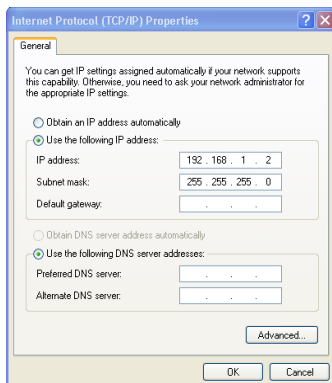

Figure 183: Internet Protocol (TCP/IP) Properties Window
6. Select Use the following IP Address, and fill in the details as shown in Figure 183.